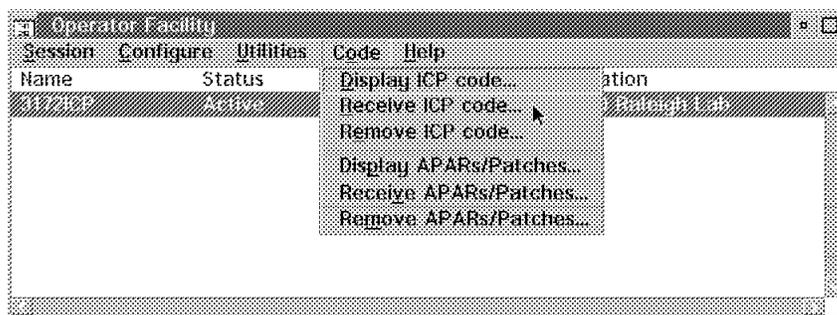

Figure 30. Selecting Receive ICP Code
- Step 1. Insert **ICP Base Diskette 1** into the operator station diskette drive (A).
- Step 3. Select **Code** from the action bar and select **Receive ICP code** as shown in Figure 30.
- Step 9. Select **Code** from the action bar and select **Receive ICP code** as shown in Figure 30 on page 67.